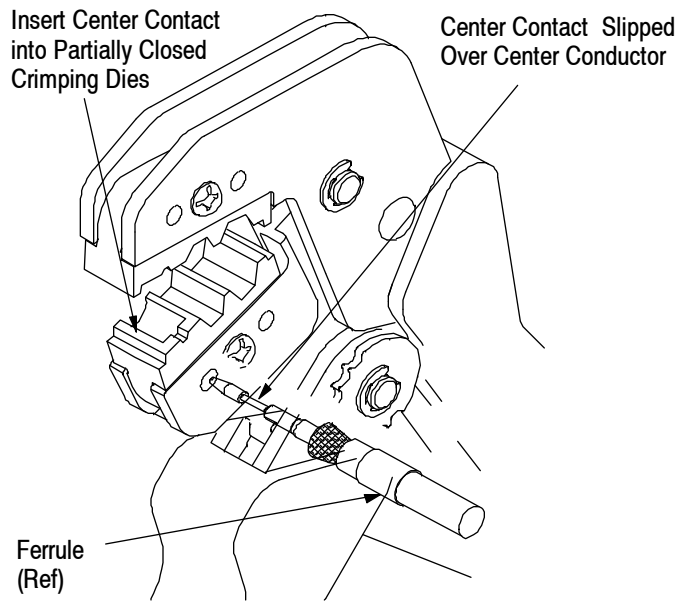
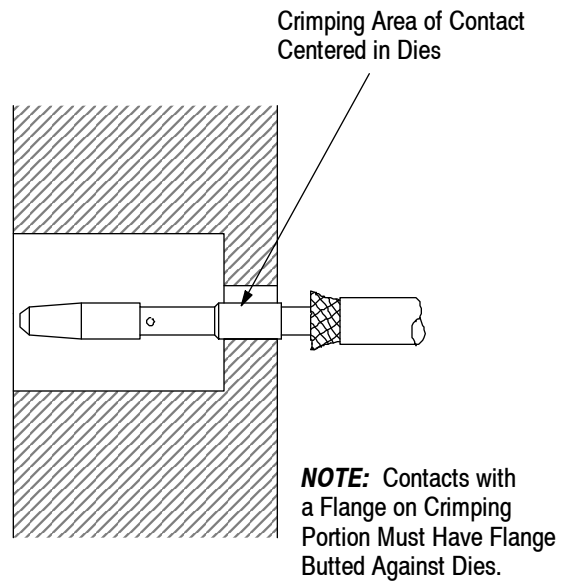

Figure 2
Figure 3
**3. CRIMPING PROCEDURE** (Figure 2 and Figure 3)
Center the crimping area of the contact in the dies. See Figure 2. If contacts have a flange on the crimping portion, butt the flange against dies (Figure 3).